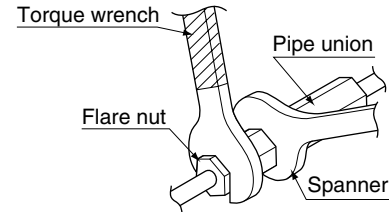

Fig. 13
- Be sure to use both a spanner and torque wrench together, as shown in the drawing, when connecting or disconnecting pipes to/from the unit. (Refer to Fig. 13)